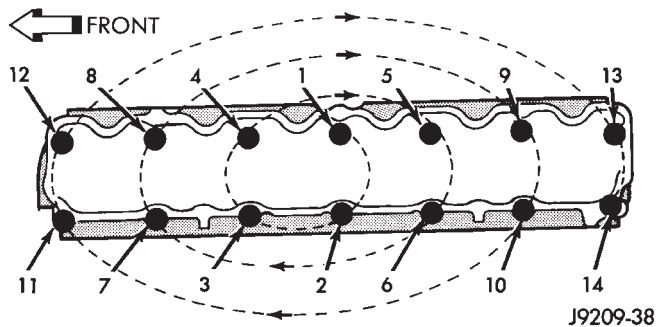

Fig. 4 Engine Cylinder Head Bolt Tightening Sequence
(3) With bolt No.14 held in place (tape around bolt), install the engine cylinder head. Remove the tape from bolt No.14.
(4) Coat the threads of stud bolt No.11 with Loctite 592 sealant, or equivalent.
(5) Tighten the engine cylinder head bolts in sequence according to the following procedure (Fig. 4):